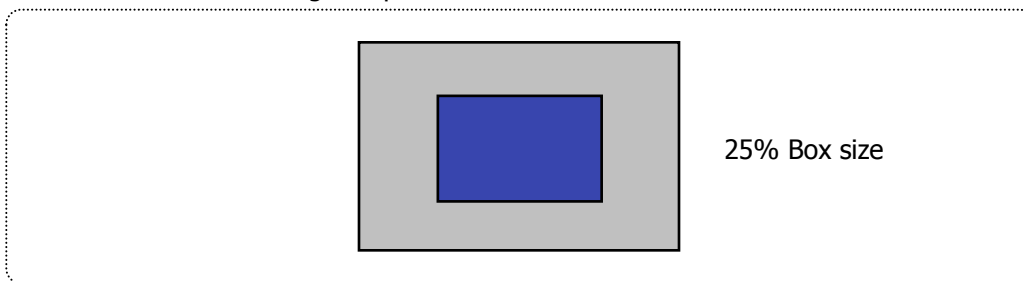

FIG.9 Color Shift Test Pattern
6. Color shift is the angle at which the average color difference for all Macbeth is lower than 0.02. For more information see FIG.9 **(By EZ Contrast)**